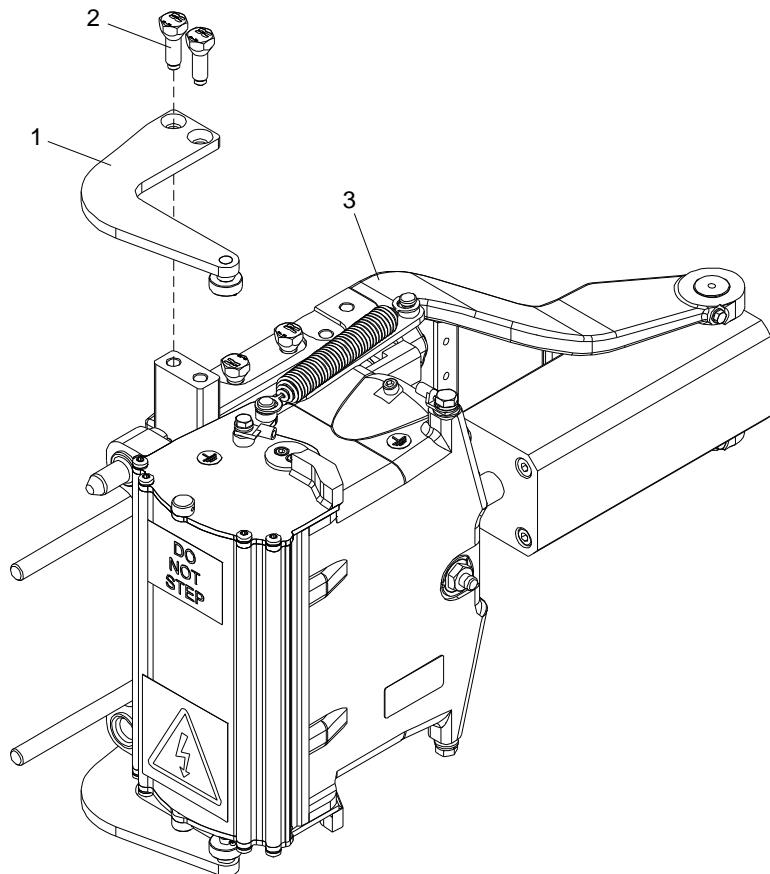

Figure 7-19: Replacement of Arm Complete Left / Right
2. Remove the arms (1) from the electrical coupler actuator (3) by removing screws (2). See Figure 7-19.
2. Fit the arms (1) to the electrical coupler actuator (3) and mount the screws (2). Tighten the screws (2) to 30 Nm (22 ft-lbs). See Figure 7-19.